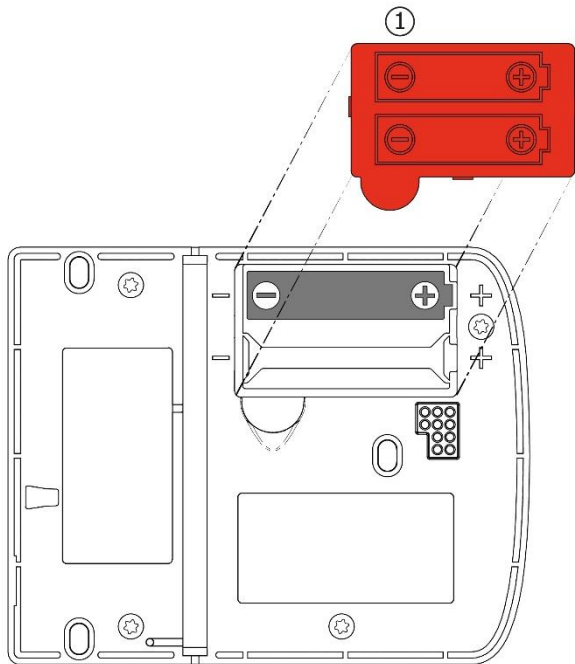

Figure 4.1 - GAT ECO.Side Lock 7000 BA battery compartment
- ▶ To access the battery compartment, remove the red battery cover (1 in Figure 4.1) on the underside of the housing by sliding a finger under the tab section of the battery cover.
- ▶ Ensure that the battery polarity is the same as shown in Figure 4.1.